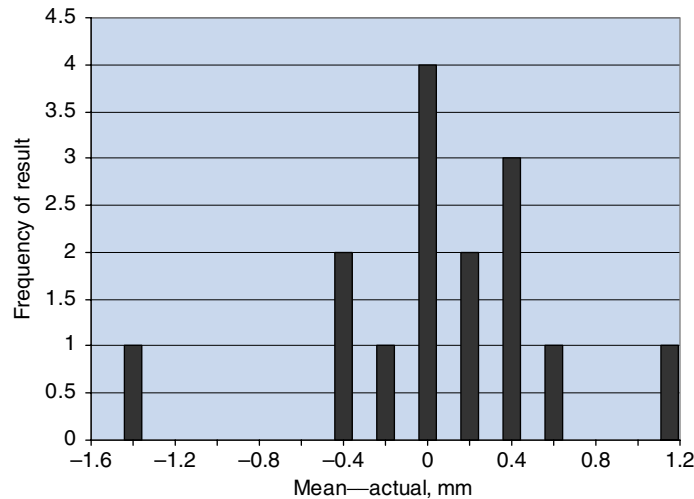
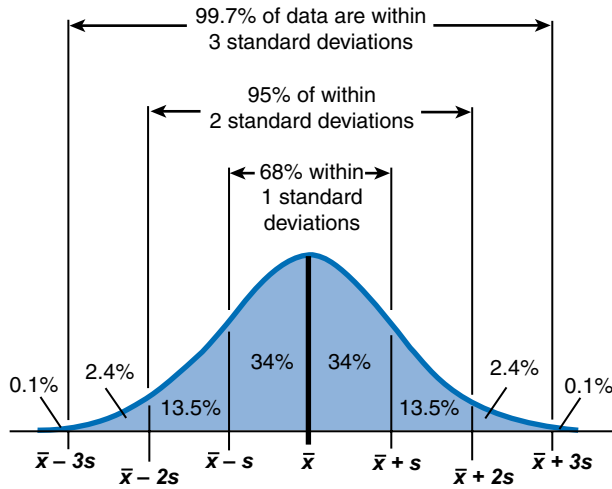

FIGURE 12.15
FIGURE 12.16
the frequency of each measurement on the vertical axis and the measured values on the horizontal axis, as in Fig. 12.15.
A typical statistical analysis of manufacturing variables starts with the histogram in Fig. 12.15. A curve is then produced which shows the number of standard deviations between the mean value and a process control limit (see Fig. 12.16). The vertical axis is the “probability” of the variable’s occurrence and the horizontal axis is known as the **Z-score** or **Process Sigma Level**, Σ , which is defined by the difference between the variable’s mean value \bar{x} and a sample point x_i all divided by the standard deviation, σ
Convert the numerical data in Table 12.3 to Z-score values. Then, plot its frequency (F) versus Z curve (this should be like the curve in Fig. 12.16).